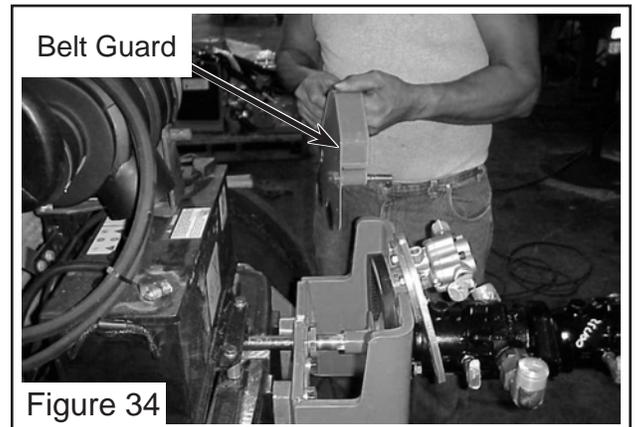

Figure 34
5. Install auxiliary pump belt cover. The belt cover will mount on the same two bolts that mounts the auxiliary pump mount plate to the main pump mount plate. Do not tighten the mounting bolts yet. (See Figure 34)